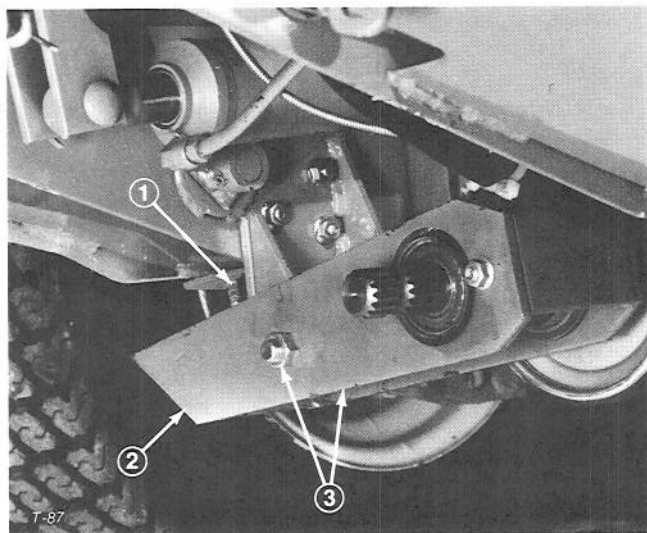

Figure 22
1. Remove shield over traction unit pulley and check tension. Belt should deflect $5/32$ inch when 7 lb. force is applied to center of belt (Fig. 22). If tension is correct, continue operation. If tension is incorrect, proceed to item 2.
2. Loosen $1/2 \times 1-1/4$ inch cap screws and nuts, loosen lower nut on machine screw and tighten top nut (Fig. 22). Turn nut until there is $5/32$ inch deflection of the belt midway between the pulleys when approximately 7 lb. force is applied. Tighten lower nut against top nut to secure adjustment and tighten $1/2 \times 1-1/4$ inch cap screws and nuts (Fig. 22).